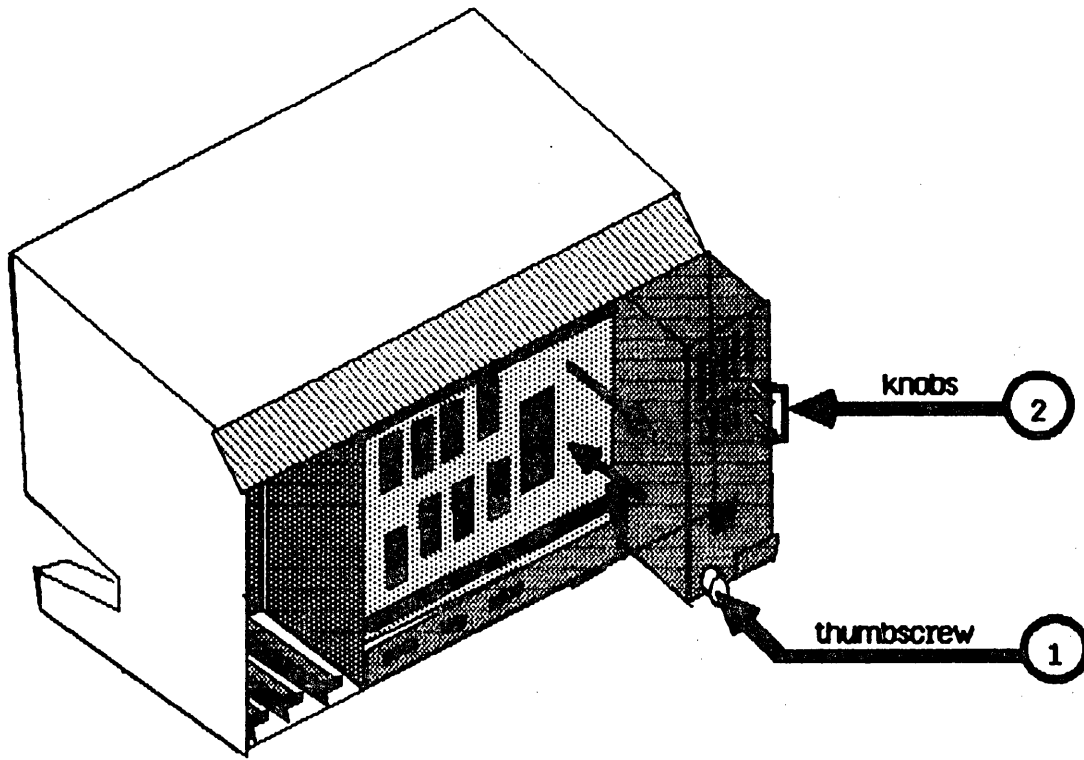

FIGURE 19
4. Turn the thumbscrew (see Figure 19, #1) at the base of the power supply counterclockwise.
1. Orient the new power supply with the two white knobs (see Figure 19, #2) pointed toward you, and the edge connector pointed towards the Lisa.